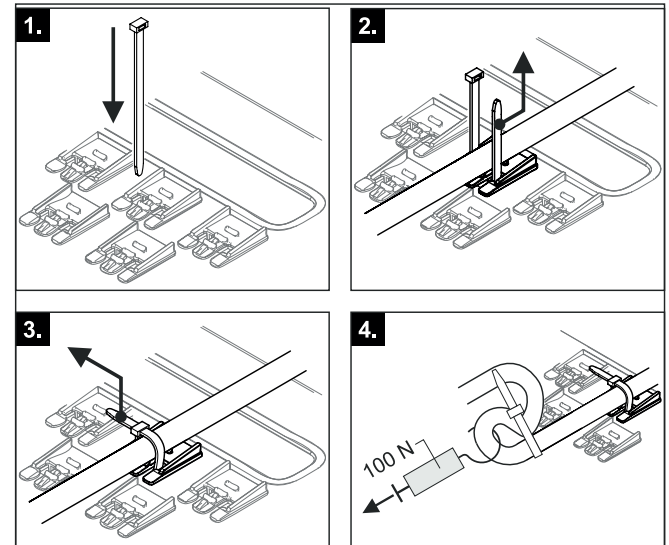

Fig. 4-34 Establishing and checking the strain relief
- 7 Effective strain relief in the controller housing by means of cable ties must be ensured for all cables connected to the Daikin Altherma EHS(X/H) (steps 1 – 3, Fig. 4-34).
- 8 Check the holding force of the strain relief (step 4, Fig. 4-34).